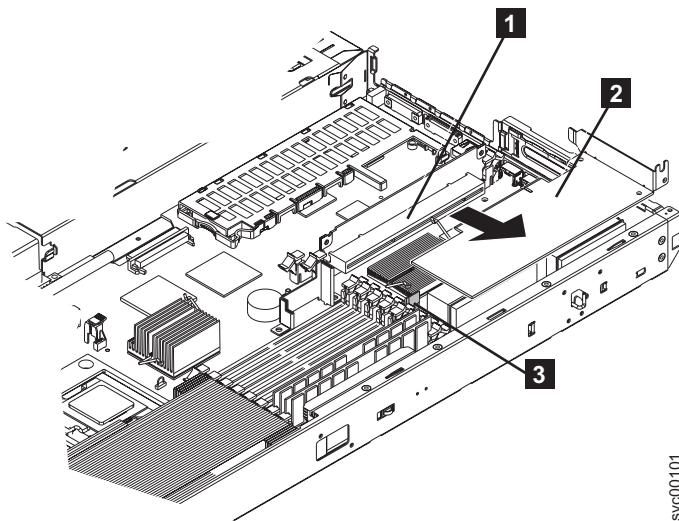

Figure 181. SAN Volume Controller 2145-8F2 riser card and low profile adapter
- b. Hold the blue adapter support away from the card and pull it away from the edge connector on the riser card assembly, as shown in Figure 181.